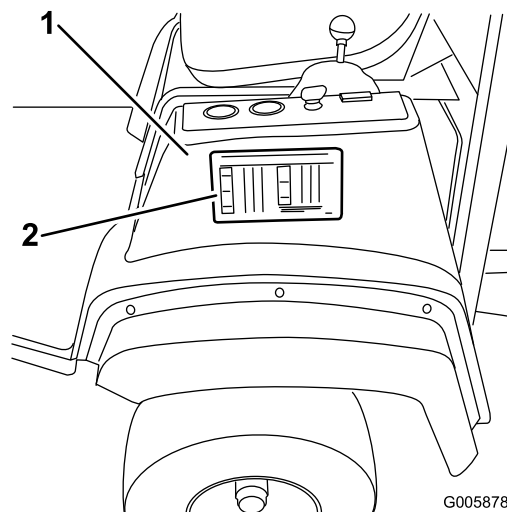

Figure 58
1. Locate the decal in loose parts. Thoroughly clean the area on the plastic fender above the **left, front** wheel (Figure 58).
3. Peel the decal from the backing and install the decal as shown in Figure 58.